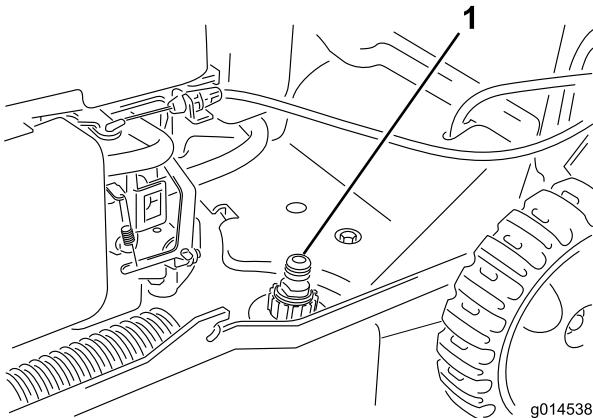

Figure 29
3. Attach a garden hose that is connected to a water supply to the washout port (Figure 29).